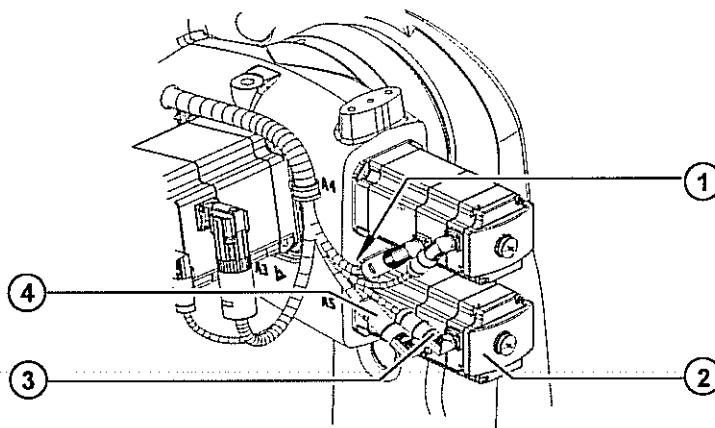

Fig. 12-13: Removal of motor A5
1. Release and unplug connectors XM5 and XP5 at the sockets (>>> Fig. 12-13).
7. Clean the mounting surface for motor A5 on the arm (>>> Fig. 12-13).